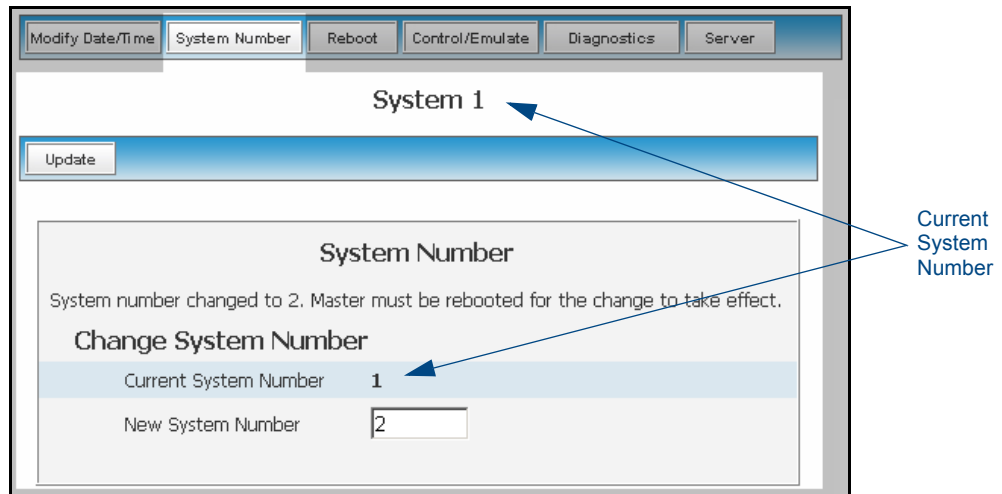

FIG. 44 Change System Number dialog
3. Click the **System Number** button to open the Change System Number dialog (FIG. 44). This dialog shows the current system number (read-only) on the target Master.